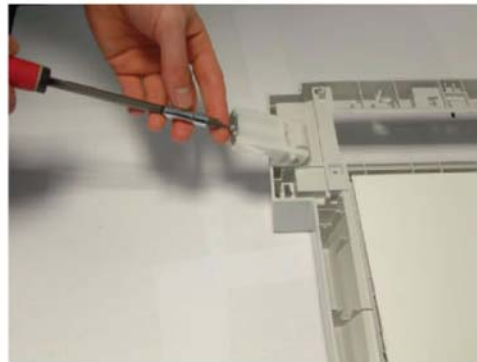

Figure 9
8. Lift and remove the ADF cover, do not forget the mounting screws of the hinges, Figure 9.